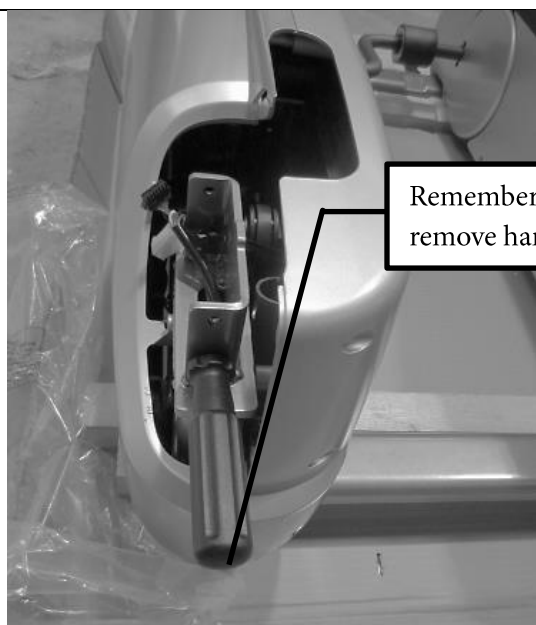

Figure 5
- Remove Front Handles before assembling Pedestal. Figure 5